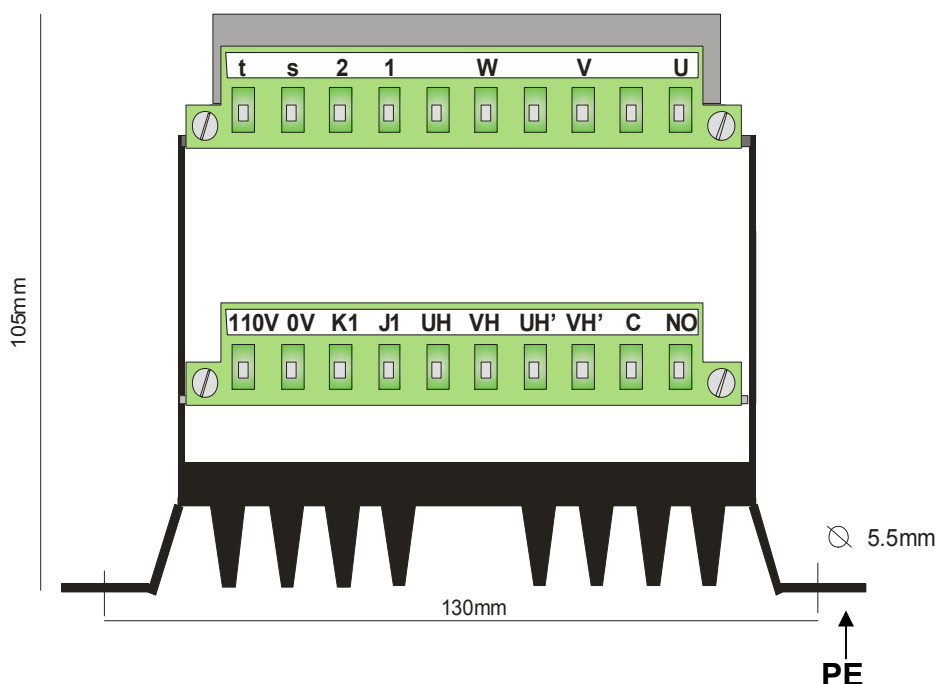

Fig 2. Rear view of the AVR (Measurements in mm)
The bottom of the AVR has a special Protective Earth (PE) connection surface shown as PE in figure 2.